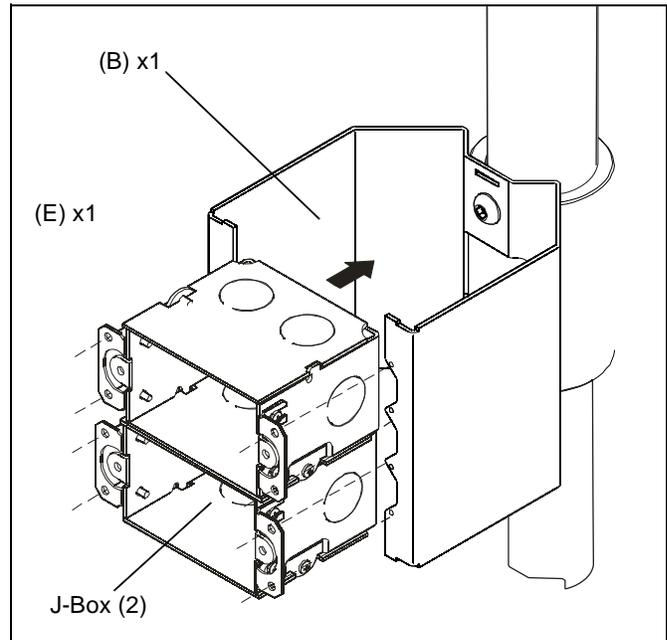

Figure 3
3. Orient each J-Box as shown below and remove knockout from back side. (See Figure 3)
4. Slide each J-Box into mounting plate (B). (See Figure 3)